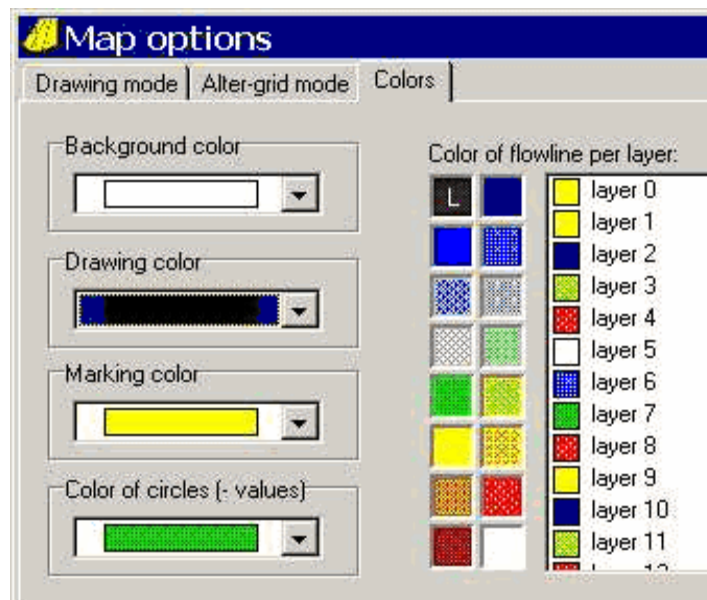

Figure 4: Map options pop-up window, color tab
3. In the menu (Figure 4, next page), select white for the background color (using the drop-down list) and black for the Drawing color. Leave the other options as they are, and click on the OK-button.